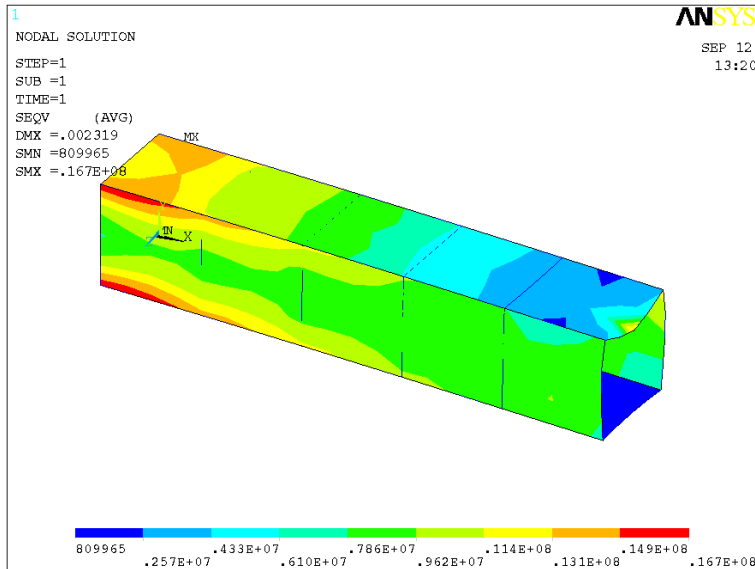

Figure 10.2
3. Choose 'Stress' from the left box and 'von Mises SEQV' from the right box (you will need to scroll down), then click 'OK'. A plot of the von Mises stress in the beam appears (shown in Figure 10.2). Although the stresses are not uniform near the fixed end of the beam, further out they are close to constant.